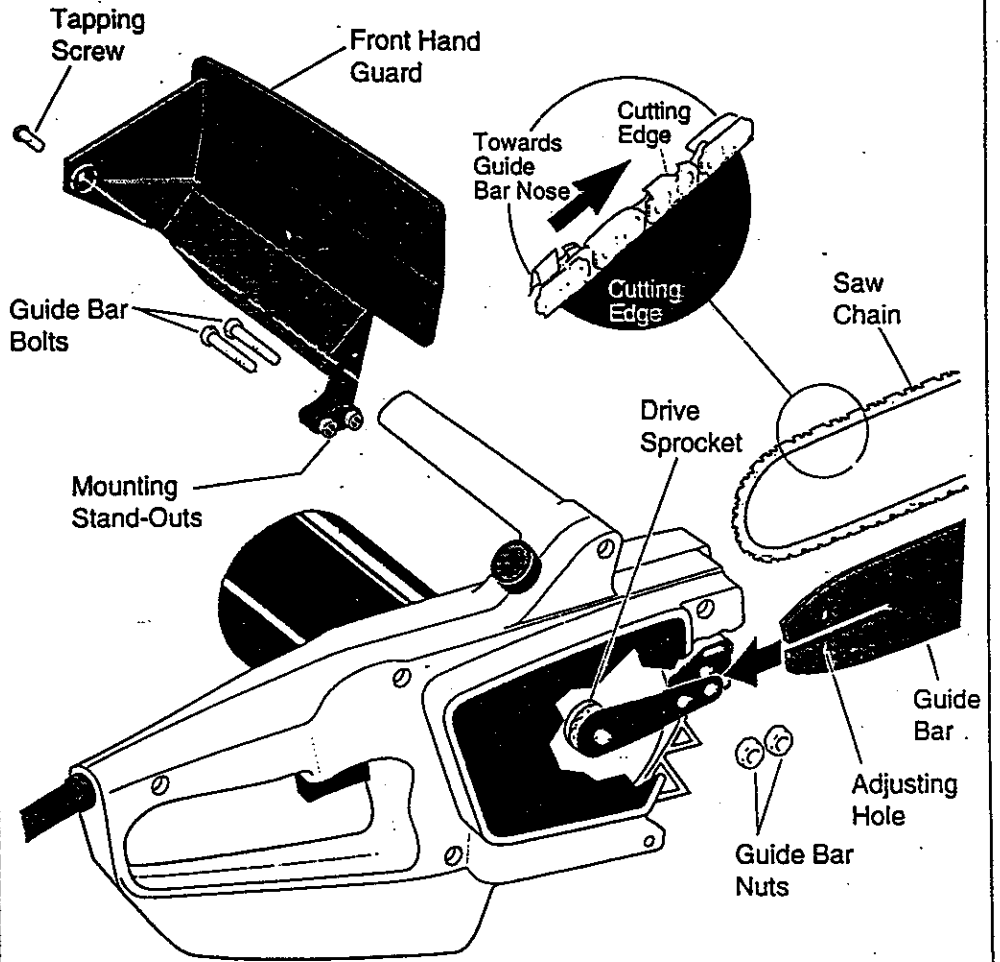

Figure 3 - Assembling Guide Bar, Chain, and Hand Guard
2. Install front hand guard onto saw body. Do this by pressing two mounting stand-outs on hand guard into hex-shaped holes in saw body (see Figure 3).
8. Place chain around drive sprocket, then along top groove of guide bar and around guide bar nose. *Note:* Make sure cutting edges of chain are facing the right direction. Position chain so cutting edges on top of guide bar face guide bar nose (see Figure 3).
1. Before adjusting chain, make sure guide bar nuts are only finger tight (see Figure 3, page 9). Also make sure adjusting block is in oval adjusting hole on guide bar (see Figure 3 and 4, page 9).